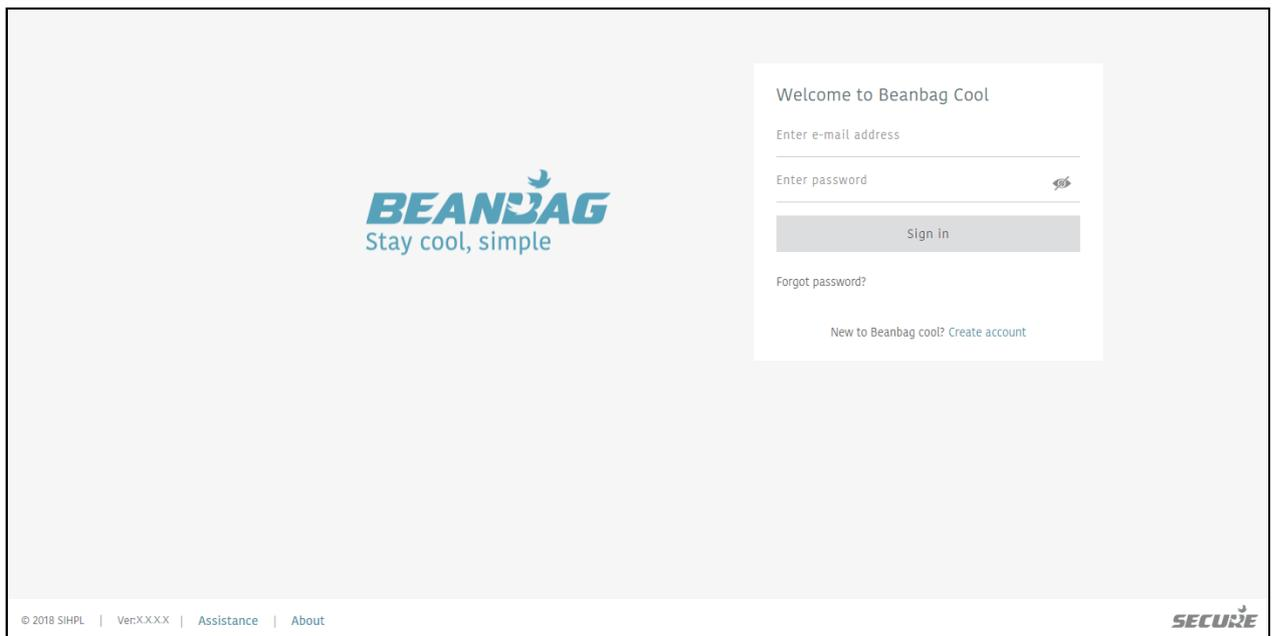

Figure 29: Beanbag Cool login screen
- 2) The Beanbag Cool Sign in screen is displayed as shown in Figure 29.